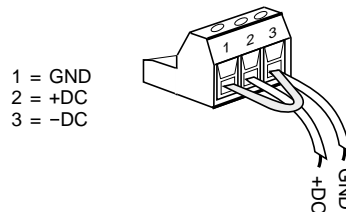

Figure 2 3-position terminal strip showing DC output connected for a negative ground scheme.
3.7 SELECTING THE DESIRED DC OUTPUT SCHEME As mentioned previously, the DC output is floating (isolated) in respect to earth ground. The DC output can be connected to the equipment to be powered in this manner, or it can be referenced to earth ground. A negative ground scheme, shown in Figure 2, is created by strapping pin 1 (ground) to pin 3 (-DC) and using this combination as the ground connection to the load. +12Vdc is then connected from pin 2 (+DC) to the load. Note that pin 1 is internally connected to the Model 721 chassis and the safety ground wire of the power cord.